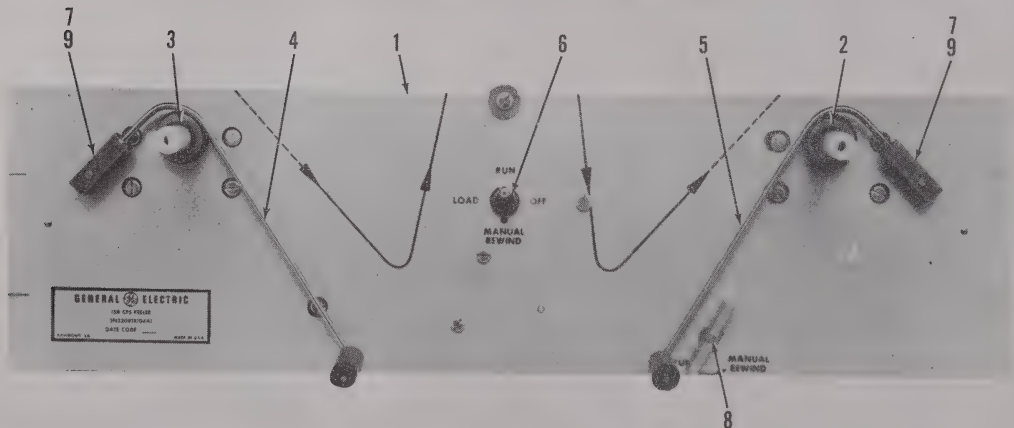

Figure 10.1
9.3 REEL HUB REPLACEMENT (2, 3, Figure 10.1)
9.4 REEL HUB ADAPTER REPLACEMENT (2, 3, Figure 10.1)
9.5 "O" RING REPLACEMENT (2, 3, Figure 10.1)
9.6 TENSION ARM AND/OR ARM WASHER REPLACEMENT (4, 5, 9, Figure 10.1)
9.7 ARM ROLLER OR ROLLER BEARING REPLACEMENT (4, 5, Figure 10.1)
9.10 PANEL SLEEVE BEARING, LARGE TORSION SPRING AND/OR SLEEVE REPLACEMENT (7, Figure 10.1, 4, 5, 6, Figure 10.2)